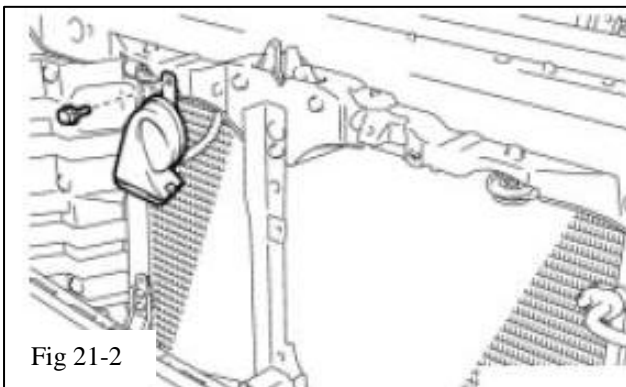

Fig 21-2
- (b) Disconnect the high pitch horn connector. Unbolt and remove the high pitch horn (Fig 21-2). Set the horn and bolt aside for now.